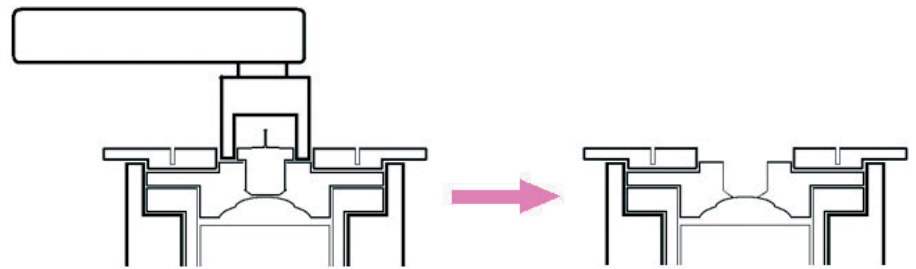

Figure 5.
Step 1: With the head tight, remove the glow plug using a $3/8$ " hex socket or box-end wrench (See figure 5).